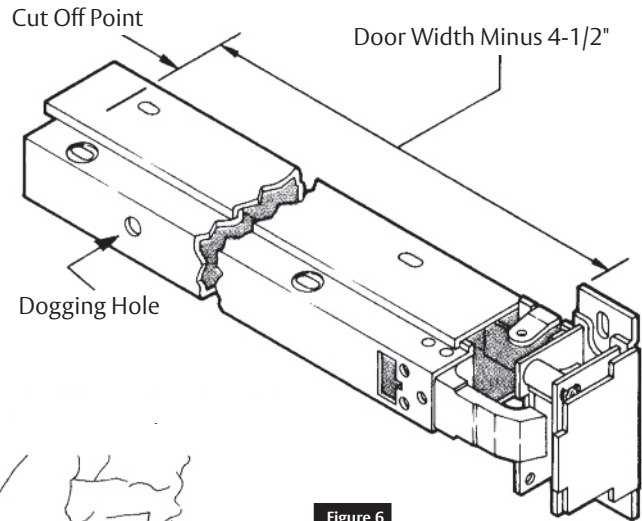

Figure 6
a. Measure and mark bar. (Figure 6)